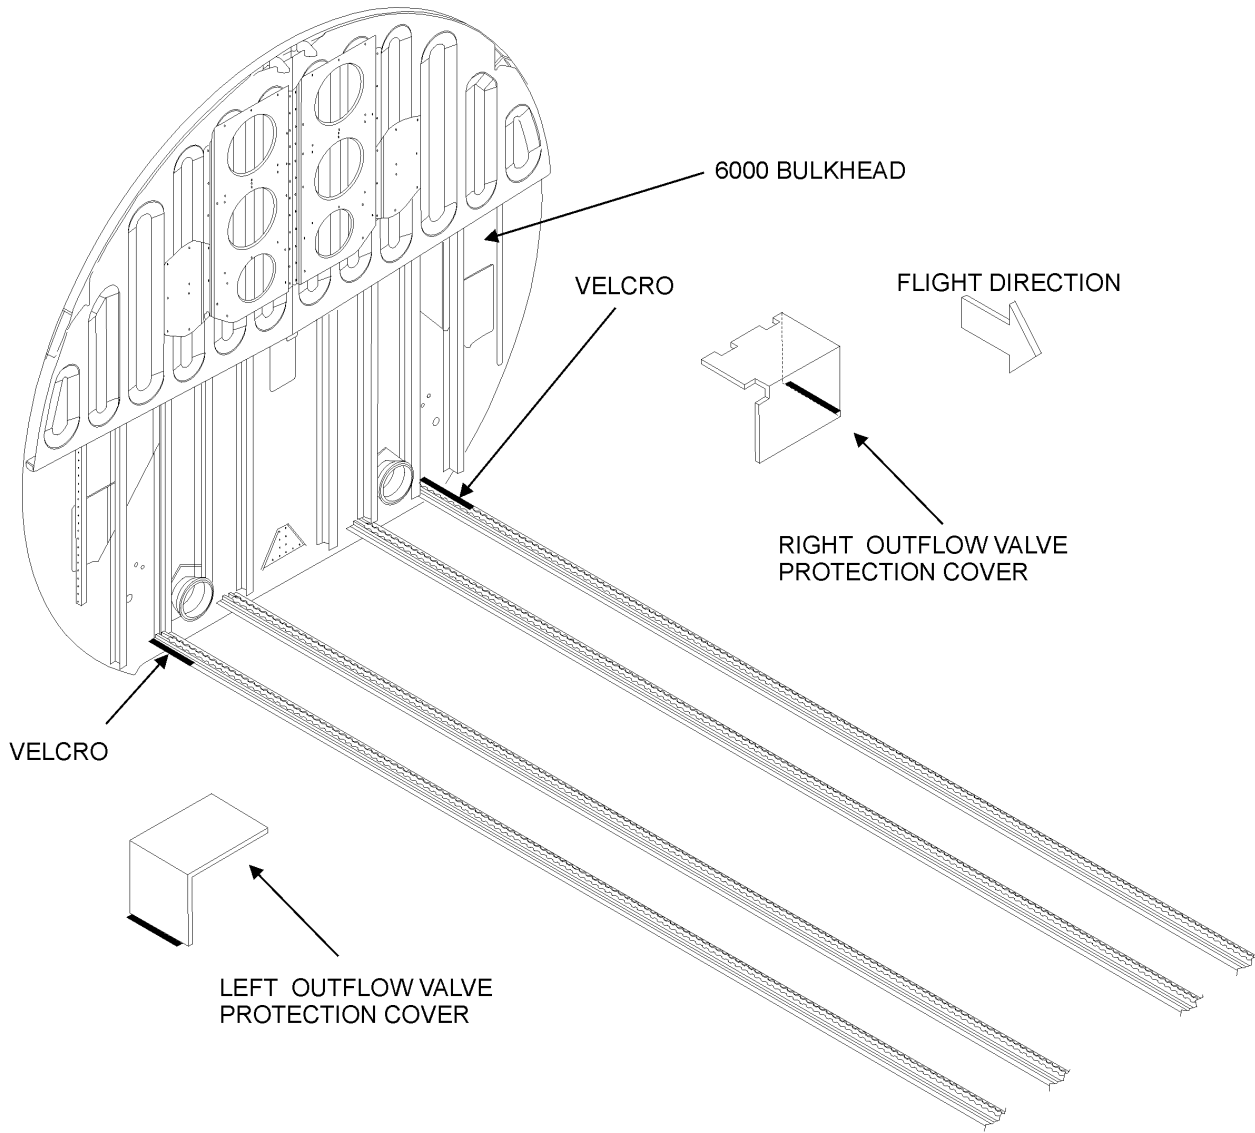

Fig. 279 - Outflow Valves Composite Protection Covers - Removal / Installation
81. Left Hand Divan Floor Drawer Assembly- Removal (Ref to Fig 279)
- (1) Pull out the Drawer Assy to reach the release trigger on the inner track of the Forward drawer Structure.
- (2) Press the release trigger to release the drawer from the drawer frame.
- (3) Remove the three screws (2) and the three washers (3) from both the LH and RH Base Brackets (6).
- (4) Remove the screws (4) and the bushings (5).
- (5) Carefully remove the Structure Assy (7).
- (6) Remove the Base Bracket Assy(6).
- (7) Remove the bushings (5) and the Ancra Fittings (8).
82. Left Hand Divan Floor Drawer Assembly- Installation (Ref to Fig 279)
83. Outflow Valves Composite Protection Covers - Removal (Ref to Fig. 279)
(2) Place a Warning Notice in the flight compartment to tell persons not apply electrical power.
(3) Remove the electrical power (Refer to 24-00-00).
(4) To gain access to the Left Outflow Valve Composite Protection Cover, remove the Toilet Seat, the Toilet Support and the Backslash Panel as described in this section.
(5) Remove the Left Outflow Valve Composite Protection Cover from the velcro located near the LH Toilet Seat Tracks.
(6) Remove the Left Outflow Valve Composite Protection Cover.
(7) To gain access to the Right Outflow Valve Composite Protection Cover, remove the acces panel located on the Backslash Panel as described in this section.
(8) Detach the Right Outflow Valve Composite Protection Cover from the velcro located near the RH Toilet Seat Tracks.
(9) Remove the Right Outflow Valve Composite Protection Cover.
84. Outflow Valves Composite Protection Covers - Installation (Ref to Fig. 279)